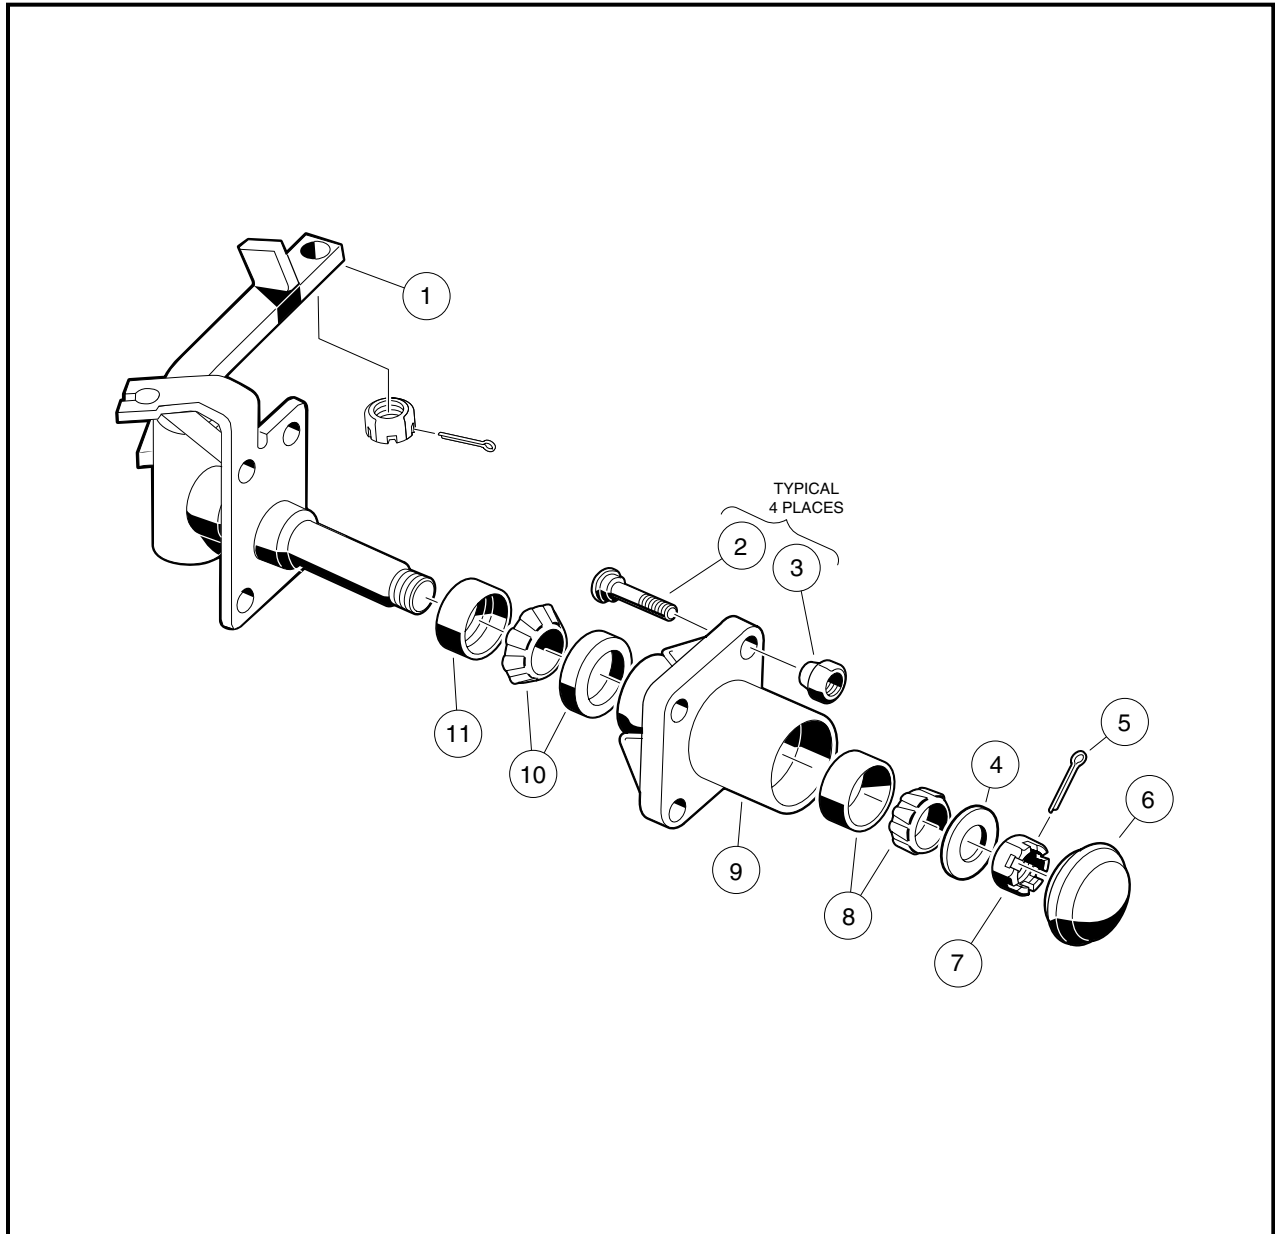

Figure 6-34 Front Spindle Assembly
6. Remove dust cap (6) on hub and bearing assembly (**Figure 6-34, Page 6-19**).
7. Remove cotter pin (5) and hex nut (7) from spindle shaft (**Figure 6-34, Page 6-19**).